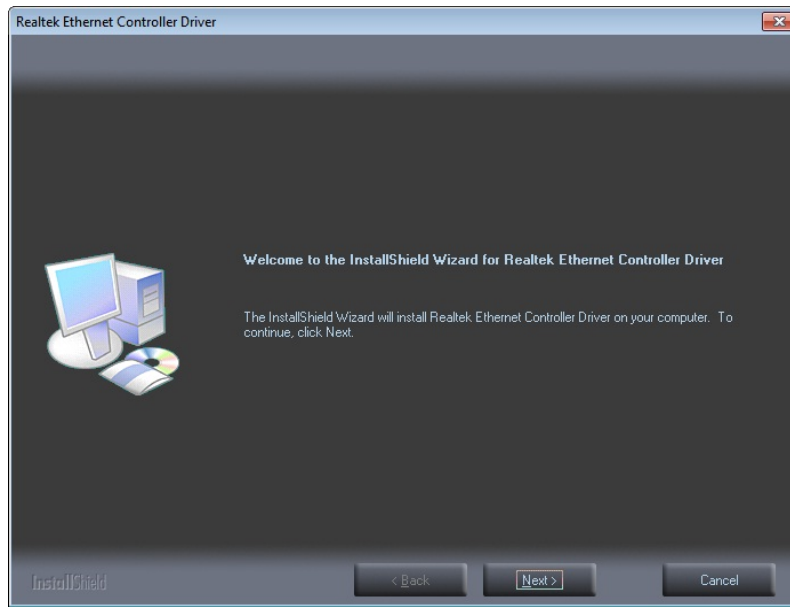

Figure 6-13: LAN Driver Welcome Screen
- Step 4:** The **Welcome** screen in **Figure 6-13** appears.